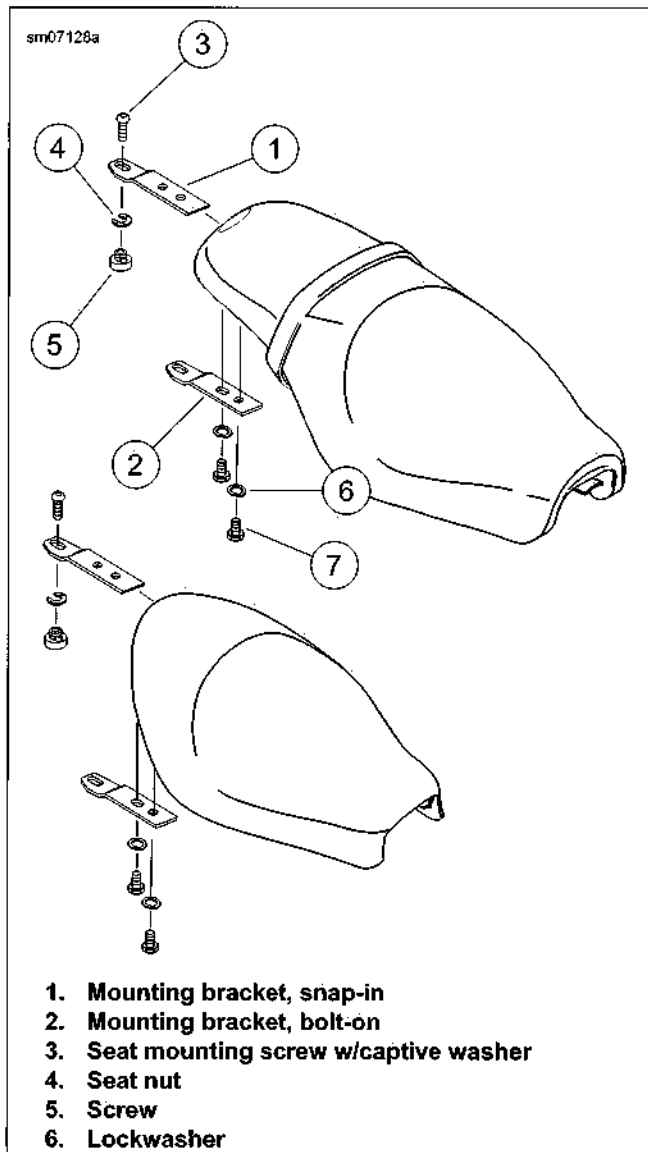

Figure 2-178. Seat Assembly
4. See Figure 2-178. Install seat mounting screw with captive washer to fasten seat mounting bracket to top of rear fender.